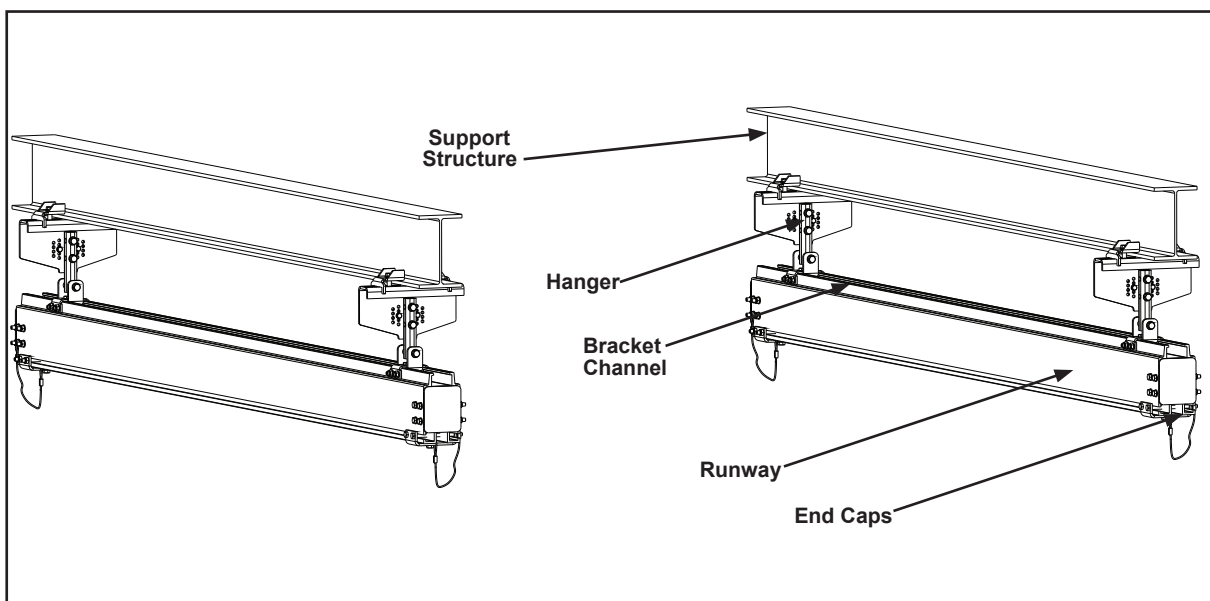

Figure 3-1
- Step 3. Select first rail section for installation and install hangers into bracket channel on runway per layout. See Figure 3-1.